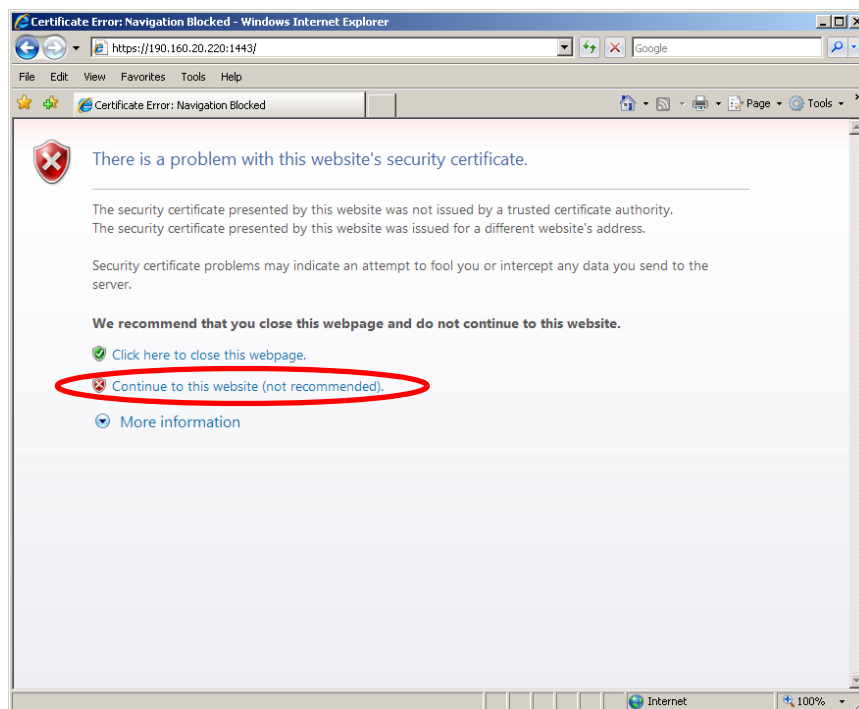
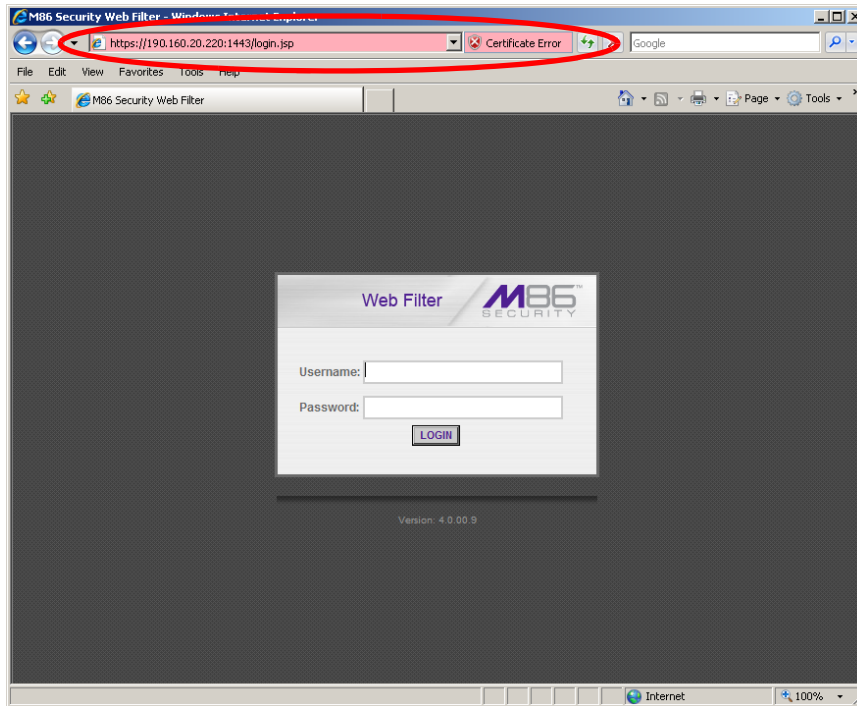

Figure A1: Windows XP, IE 7
Figure A2: Windows XP, IE 7
- When the security issue page re-displays with the message: "There is a problem with this website's security certificate.", click **Continue to this website (not recommended)** (see Figure A1). Choosing this option displays the Web Filter login window with the address field and the Certificate Error button to the right of the field shaded a reddish color (see Figure A2).